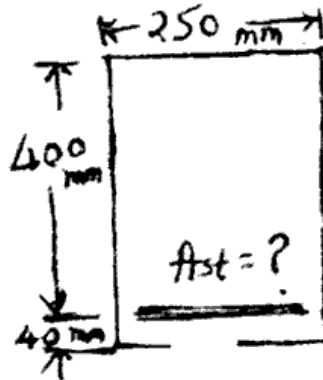

Fig. 2.
- ii) Lateral ties in columns (4)
- b) For the beam shown in fig.2 determine the area of tension steel required to be provided to make the section as balanced section: (Use M-20 and Fe 415) by using: